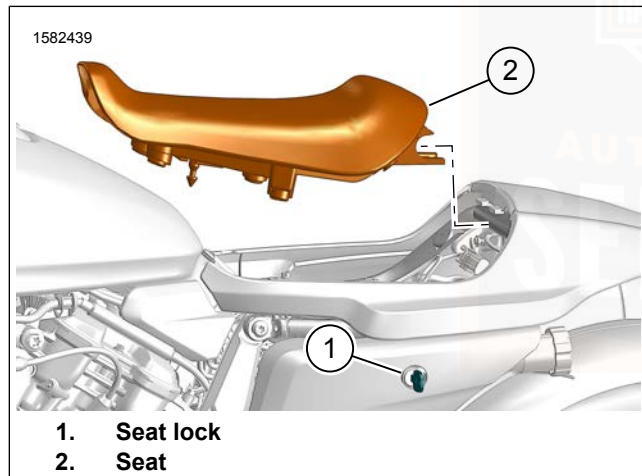

Figure 95. Seat
1. See Figure 95. Insert key in seat lock (1).
3. Lift up front of seat (2) and move forward to remove.
1. See Figure 95. Lower rear of seat (2) into position.